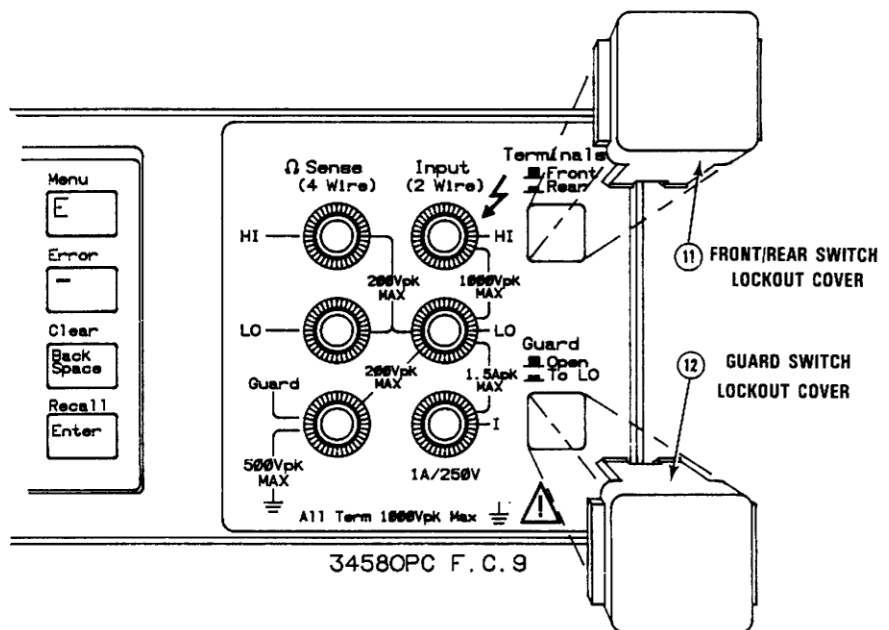

Figure 43. Switch covers installation
1. Refer to Figure 43. Turn the instrument so its front faces you.
3. Locate the little square covers that came in the switch lockout kit. as shown in Figure 43.